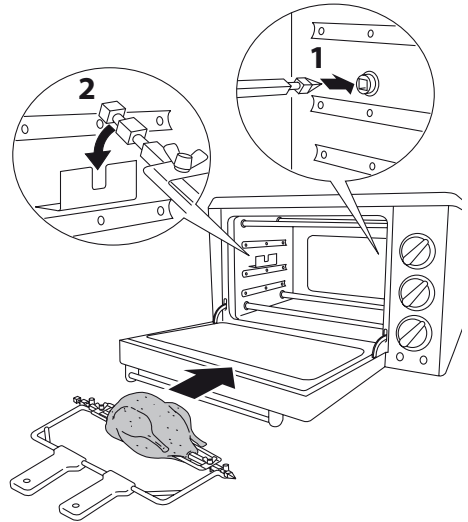

fig. 3
- Place rotisserie spit with food affixed into cold oven (Fig. 3).